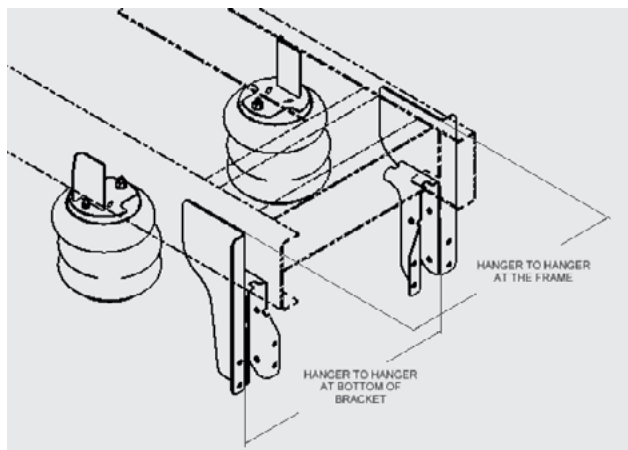

Figure 9. Hanger Positioning
4. Verify that the measurements between the suspension hanger brackets (see Figure 9) at the frame and at the bottom of the brackets are within the allowable tolerance. Hangers must be parallel to one another vertically.